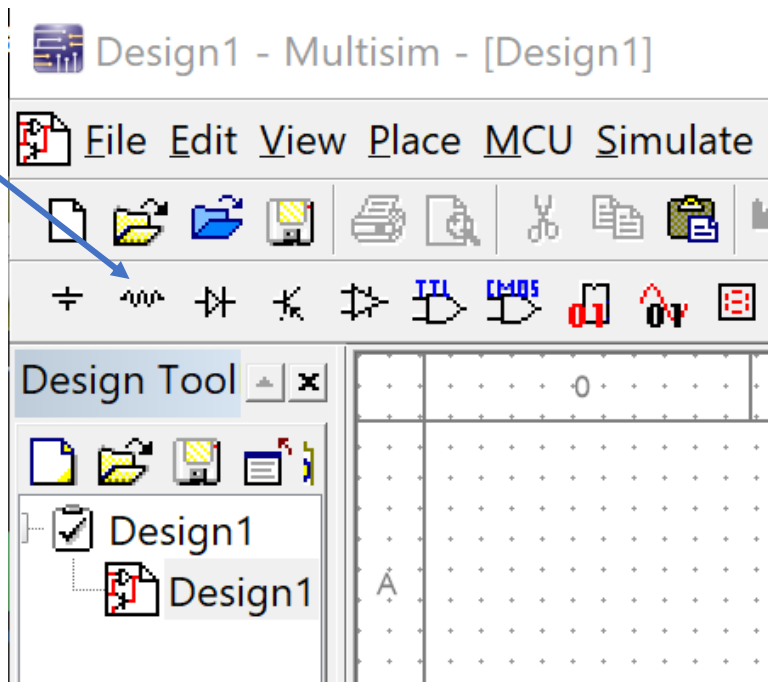

Fig. 1
- Click the “Place Basic” icon (Fig. 1)
-> double click on the resistor symbol  (Fig. 1)